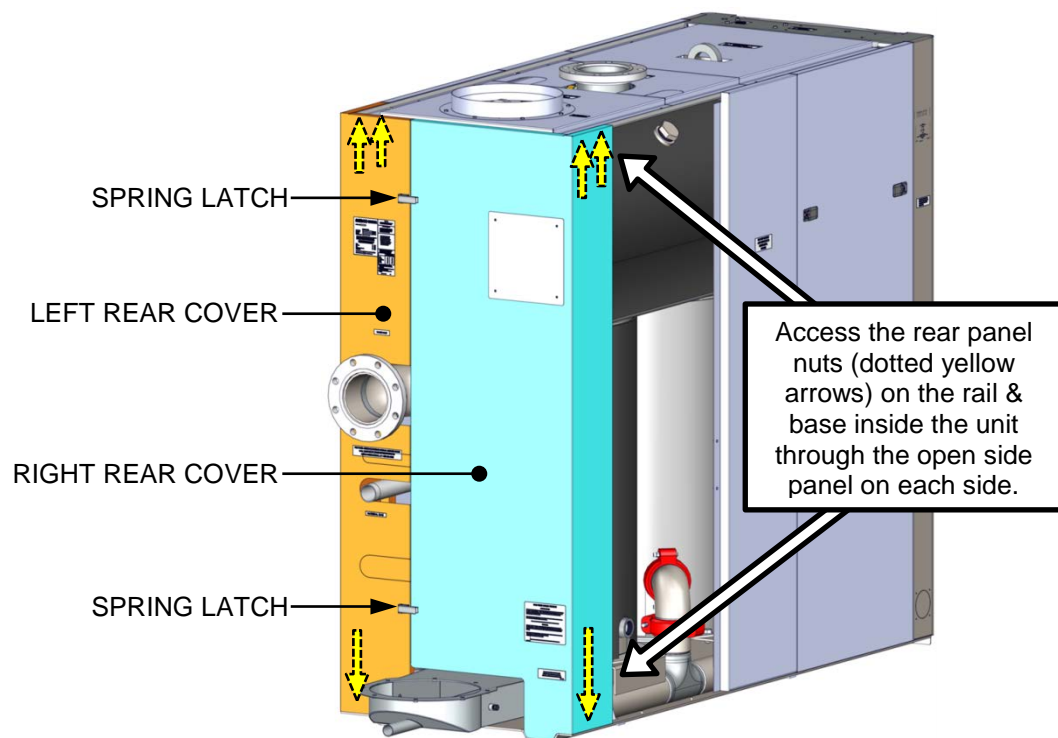

Figure 7-6: Rear View Showing Rear Panel Nut & Latch Locations
At the top, the left-rear and right-rear covers are affixed to the left and right top rails by nuts. At the bottom, each rear cover is affixed to the base with one nut each. Access the nuts for removal through the side panel, as shown in Figure 7-6.
3. Remove the right-rear panel which is held in place by 7/16" nuts on the top rail and inside the bottom lip. Also, open the 2 spring latches. See Figure 7-6.